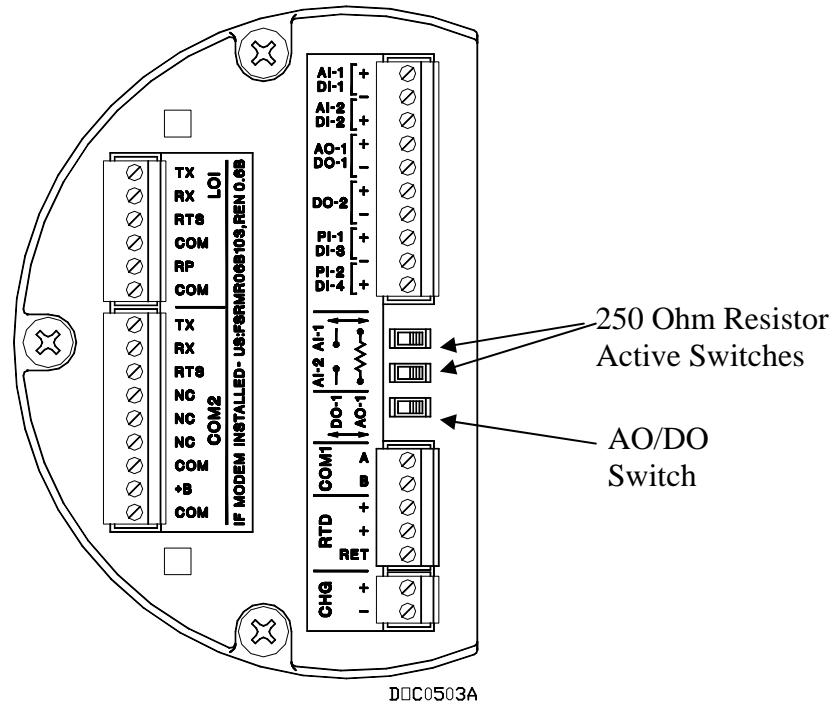

Figure 5-1. Termination Board with Optional I/O
To select the type of output for the **Analog Output/Discrete Output** #1 channel, flip the AO/DO switch on the termination board to the desired position. Refer to Figure 5-1 for the switch location. Then select the desired output type on the Configure > I/O > Setup screen in ROCLINK 800 configuration software. Analog Output is the default position for this channel.
- ❖ **NOTE:** When an Analog Input/Discrete Input channel is selected to Analog Input, be sure the 250 Ohm Resistor Active switch is set to the resistor active position. Refer to Figure 5-1 for the switch location.
The terminals for connecting the Analog Input wiring are shown in Figure 5-1.
Current inputs of 4-20 mA can be used when the switch for a 250-ohm resistor is in the resistor installed position. This switch is located below the terminations. Refer to Figure 5-1.
The terminals for connecting the DI wiring are shown in Figure 5-1.
The terminals for connecting the DO wiring are shown in Figure 5-1.